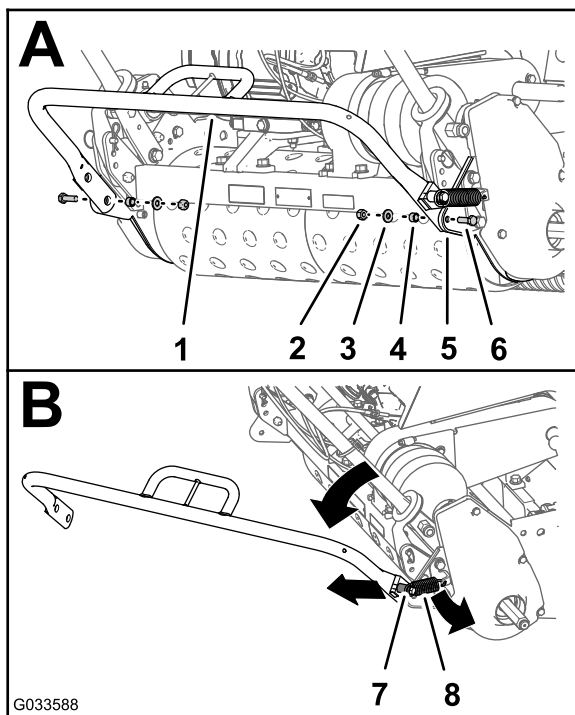

Figure 2
1. With the kickstand up, remove the locknut, washer, spacer, and screw (5/16 x 1 inch) securing each side of the kickstand to the side plates (A of Figure 2).
2. Remove the spring from the spring post (1 inch) of the kickstand (B of Figure 2).